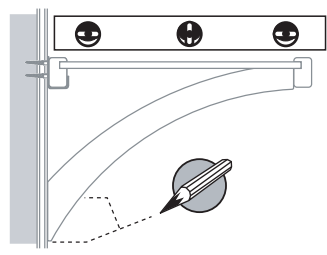

FIG. 6.0
- Select Angle bracket for placement at (C) location (refer to selected configuration layout for location).
- Place angle bracket square with shelf underside and back wall. Level shelf (front to back) then mark hole location and mark line at the bottom of Angle Bracket against wall (Fig. 6.0).